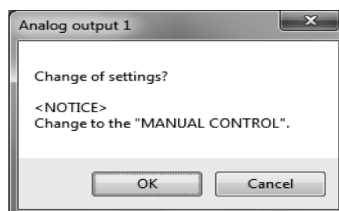

Fig.39
- ④ Click the "OK" button after all settings are completed to display the message box (Fig. 39). Click "OK" here to change the settings to the inputted values, and to reflect the changed setting values in the flowmeter's output. For the sake of safety, if the flowmeter's output is used to control valves or other such parts, then change that control loop to manual control so that the control loop is not influenced by the flowmeter's output.